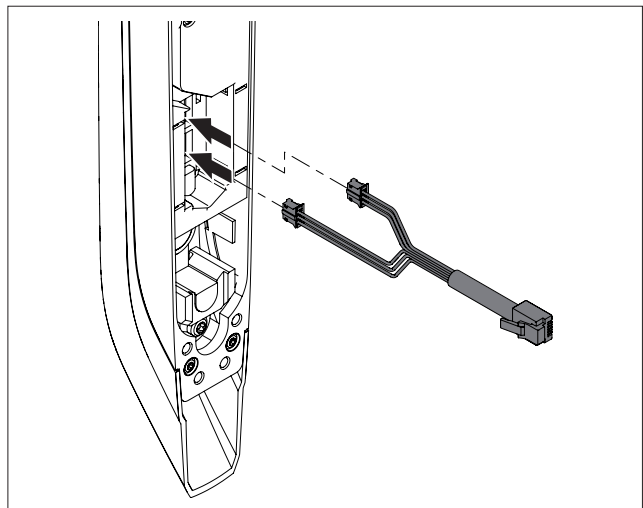

Fig. 4: Connecting the cable to the comfort handle
- Connect the connection cables to the comfort handle so that the connector with the long cables is in the bottom jack and the connector with the short cables is in the top jack (see fig. 4).